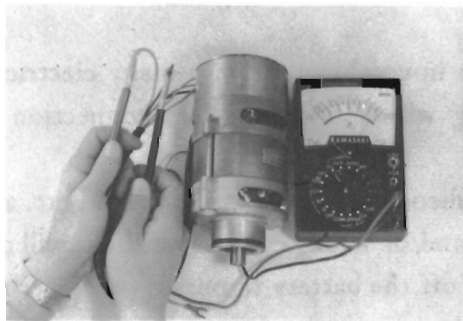

Fig. 5-8
- (1) For the "A series" contact breaker ignition system, check the continuity by setting a tester between two yellow leading wires and one green leading wire going out of the generator, as shown in Fig. 5-8. If terminals are electrically connected, no wire has snapped. Next, setting a tester between the body and yellow terminal, check that no current flows. If nothing is abnormal with it, there is no broken wire in the armature or short-circuit between the armature and the body.